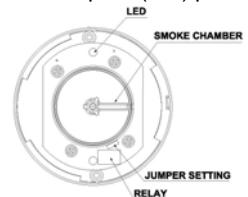

Fig. 3 Schematic of detector structure
- The reset position for the relays is at "normal open" (NO) position, when energizing all the relays.
- If one needs to adjust the relay set point, use a screwdriver to loose two screws on the back of the base. See Figure 3, there is a jump head next to the relay on the PCB, adjust it to select set point either "normal close" (NC) or "normal open" (NO) position.